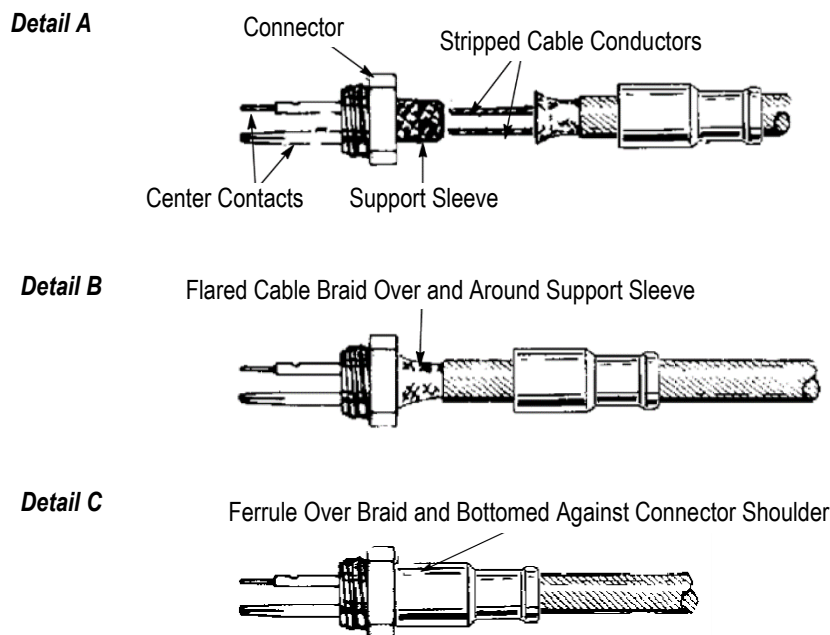

Figure 3
5. Hold the ferrule in place, and from the crimp end, insert the stripped cable conductors into each center contact. See Figure 3, Detail A. Ensure that the braid passes over and around the support sleeve as shown in Figure 3, Detail B.
7. Slide the ferrule over the cable braid until it bottoms against the connector shoulder. See Figure 3, Detail C.